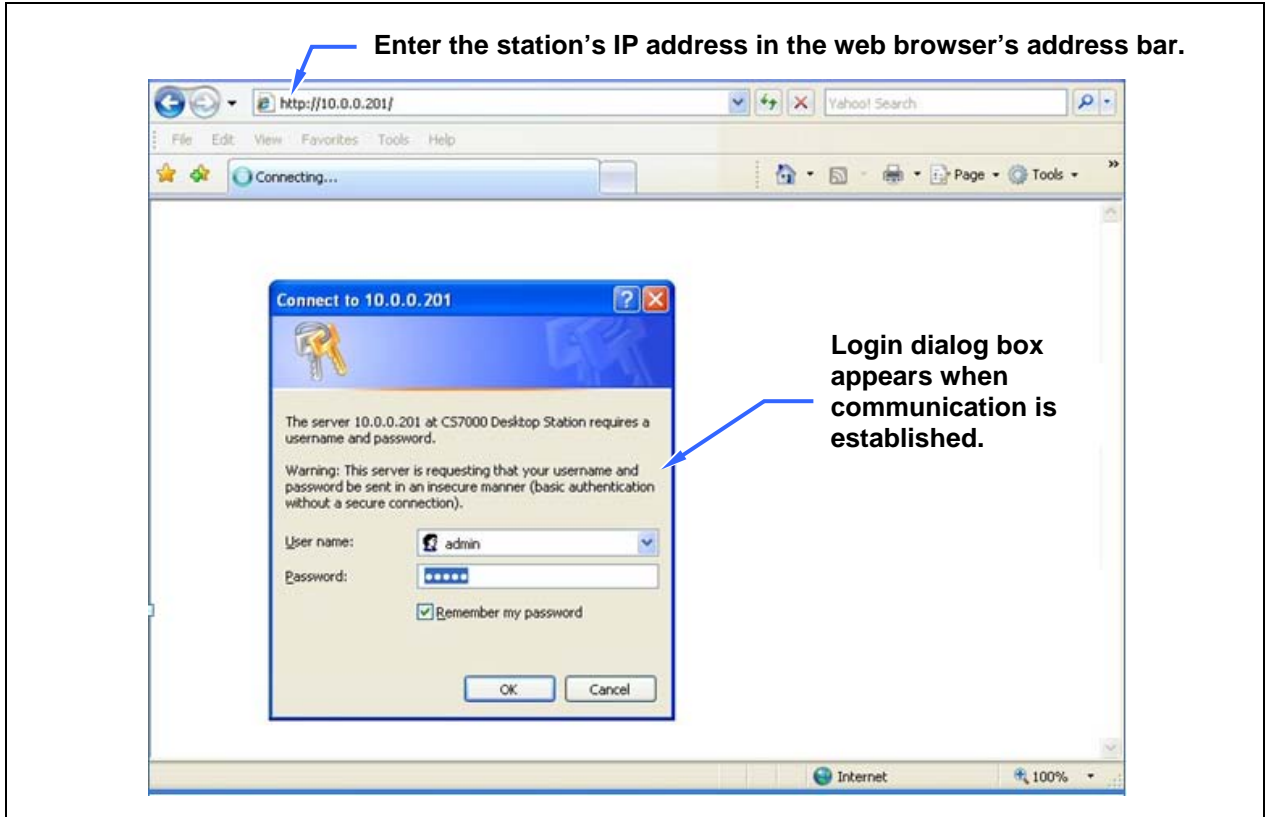

Figure 8-2: Establishing Communication between the Computer and the CS7000 Control Station
4. In the web browser's address bar, enter the CS7000 Control Station's IP address. The default address is 10.0.0.201. When communication is established between the station and the computer, a small login dialog box will appear in the web browser session. This dialog box has text boxes for entering a user name and a password. See Figure 8-2.
2. As illustrated in Figure 8-2 on page 53, enter the CS7000 Control Station’s IP address in the browser’s address bar. The default address is 10.0.0.201. When communication is established between the CS7000 Control Station and the computer, a small login dialog box will appear in the web browser session. This dialog box has text boxes for entering a user name and password.